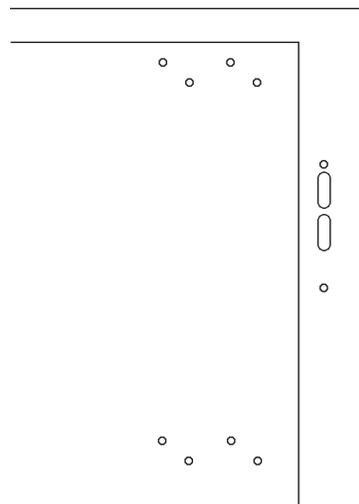

Figure 14
4. Assemble Circuit Breaker Mounting Plate with attached Breaker and Operator to cabinet on lower right set of provided mounting studs (see Figure 14) using provided 1/4" Lock Washers and 1/4-20 Hex Nuts.